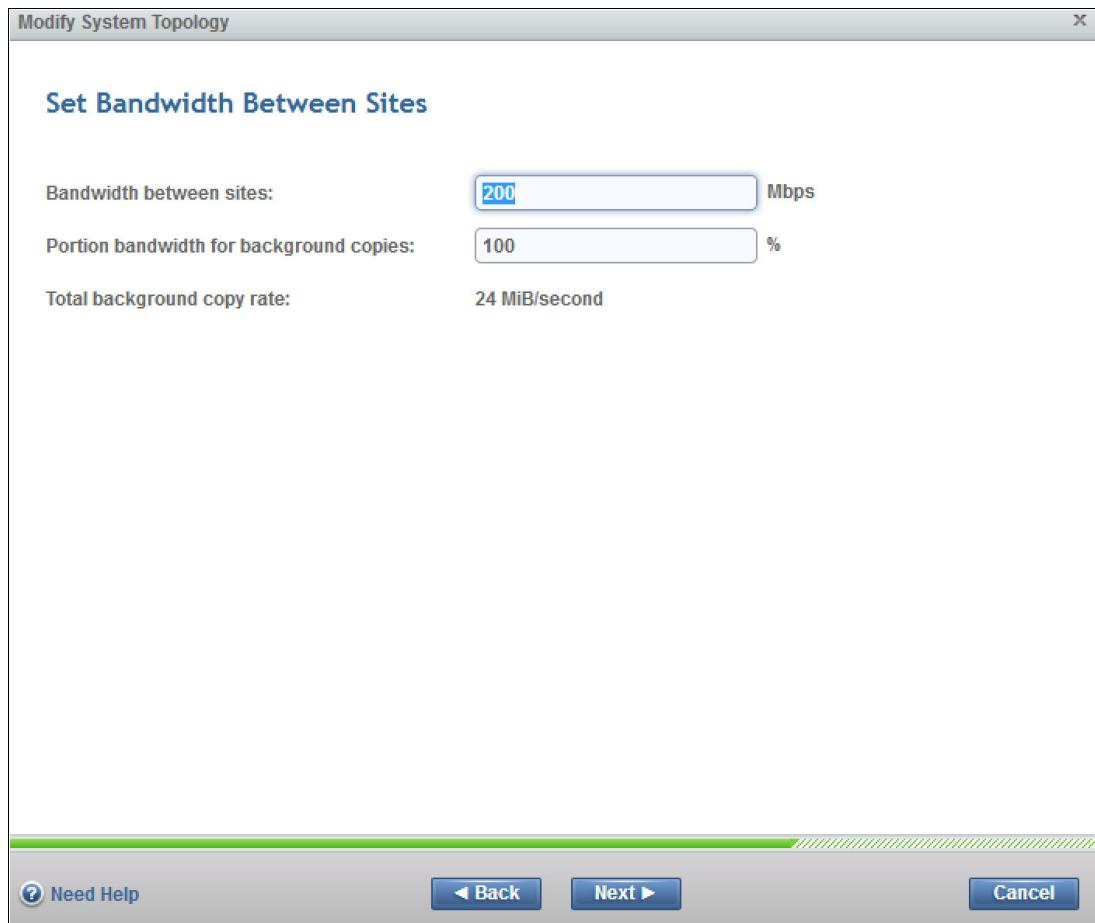

Figure 4-41 Setting the bandwidth
8. Figure 4-41 shows the columns for bandwidth and background copy rates for the HyperSwap Configuration. The settings for these parameters should be in line with your environment. The link bandwidth should be the same as the bandwidth available between sites on the FC SAN.